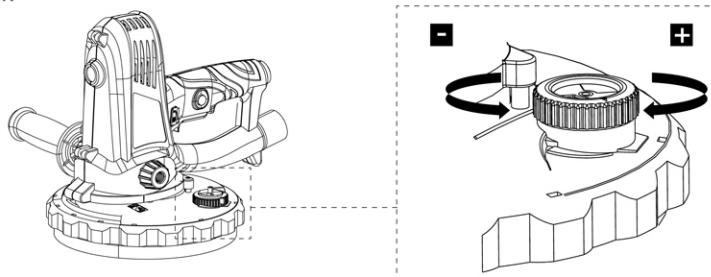

Fig. 8
- > Adjust the suction power according to the intended operation (Fig. 8).
- > Turn the vacuum adjustment dial (8) clockwise to increase the suction power.
- > Turn the vacuum adjustment dial (8) anticlockwise to decrease the suction power.